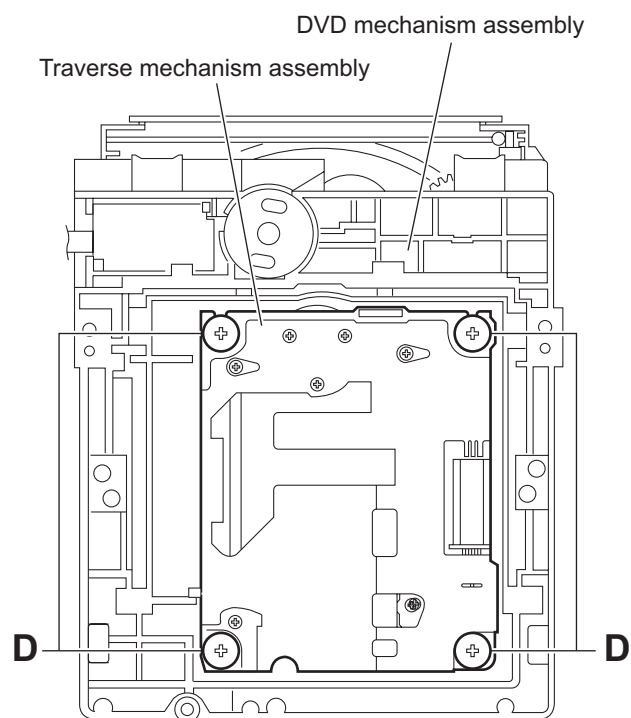

Fig.5
- (5) Remove the four screws **D** attaching the traverse mechanism. (See Fig.5)